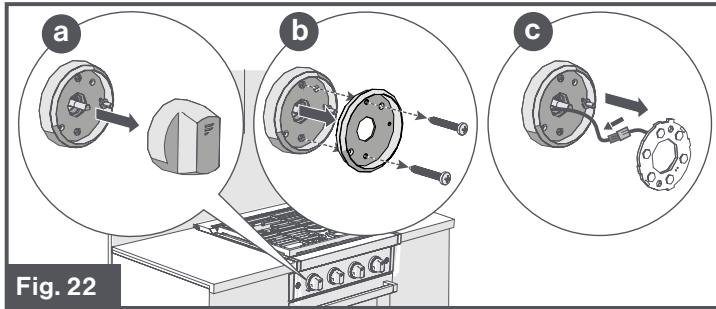

Fig. 22
1. Disconnect the oven from the power supply by means of the switch used to connect the appliance to the electrical mains or fuse. Grasp and pull out the control knob with the broken LED light. (Fig. 22 **a**)
2. Remove the two screws holding the LED light guide using a phillips screwdriver. (Fig. 22 **b**)
3. Remove the LED assembly after disconnecting the wire from the base of the LED PCB board. (Fig. 22 **c**)